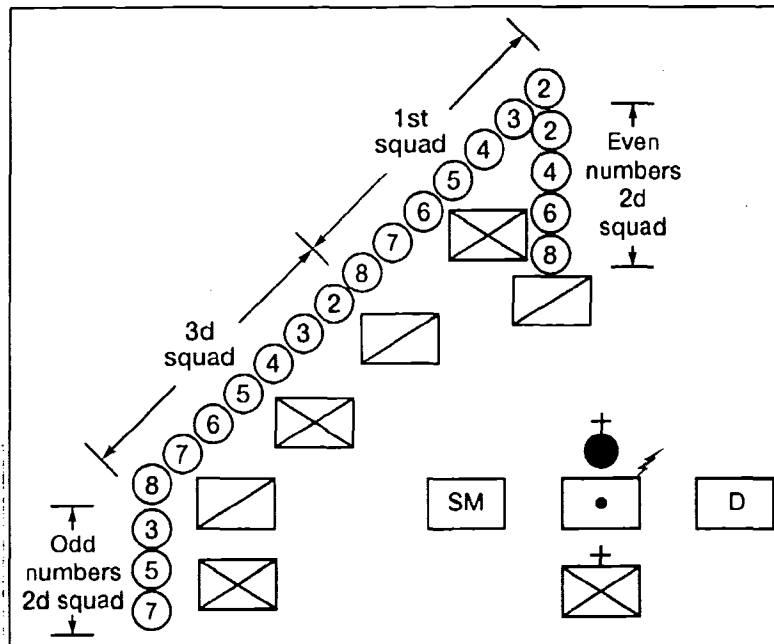

Figure 191-379-5400-8. Platoon Echelon, Left with One Squad in Lateral Support
7. Form the platoon in a platoon echelon, right (or left) with one support squad in lateral support the same as with the line (figure 191-379-5400-8).